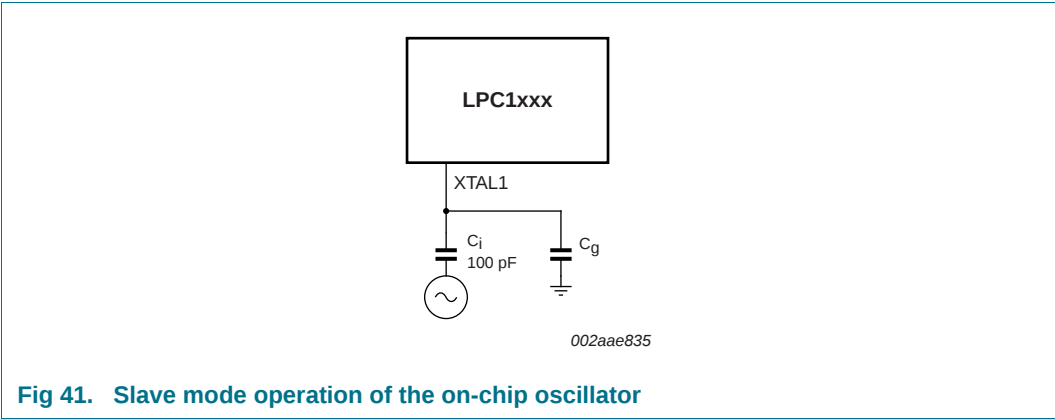

Fig 41. Slave mode operation of the on-chip oscillator
- In slave mode, couple the input clock signal with a capacitor of 100 pF (C_C in Figure 41), with an amplitude of at least 200 mV (RMS). The XTAL2 pin in this configuration can be left unconnected.
An external clock can be connected to RTCX1 if RTCX2 is left open. The recommended amplitude of the clock signal is $V_{\text{i(RMS)}} = 100$ mV to 200 mV with a coupling capacitance of 5 pF to 10 pF. $V_{\text{i(RMS)}}$ must be lower than 450 mV. See Figure 41 for a similar slave-mode set-up that uses the crystal oscillator.